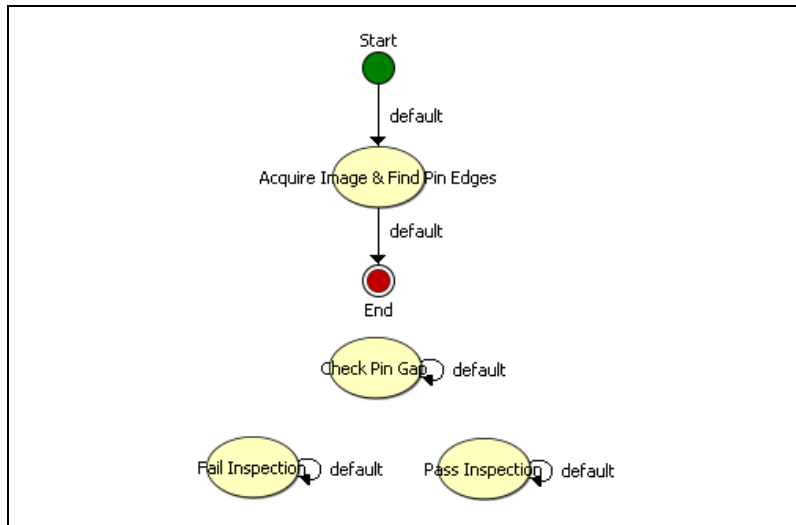

Figure 7-2. Adding New States to the Inspection
6. Create two more states named Fail Inspection and Pass Inspection. The state diagram should now resemble the state diagram shown in Figure 7-2.